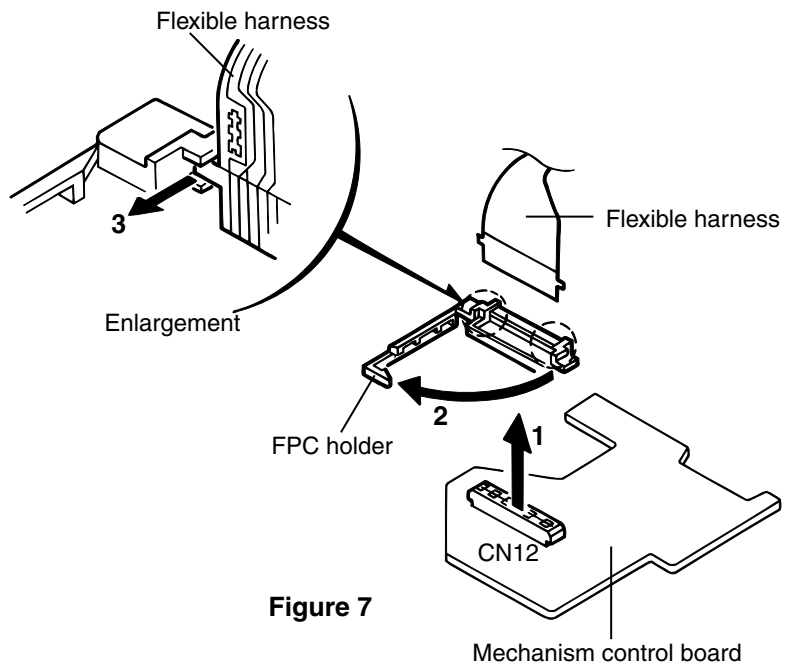

Figure 7
- 4. Pull out the FPC holder from the CN12 connector on the reverse side of the mechanism control board and remove the flexible harness, referring to Figure 7.